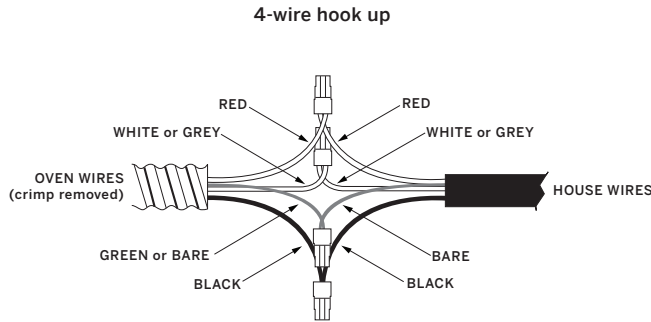

FIGURE 4: 4-wire hook up.
- 6. The electrical supply should be a 4-wire single-phase AC. Connect the red, black, white, and green ground oven wires to the corresponding colors of the electrical supply wires. See Figure 4. Route flex conduit to allow temporary removal of oven for service.